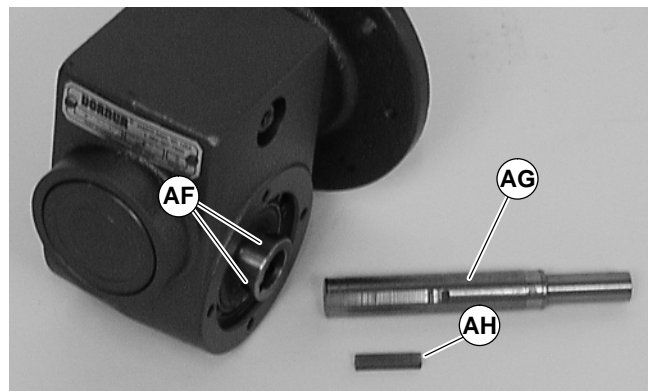

Figure 17
9. Insert the new shaft with adhesive (AG of Figure 17) and key (AH) into new gear reducer. Tighten set screws (AF) to 3 Nm.